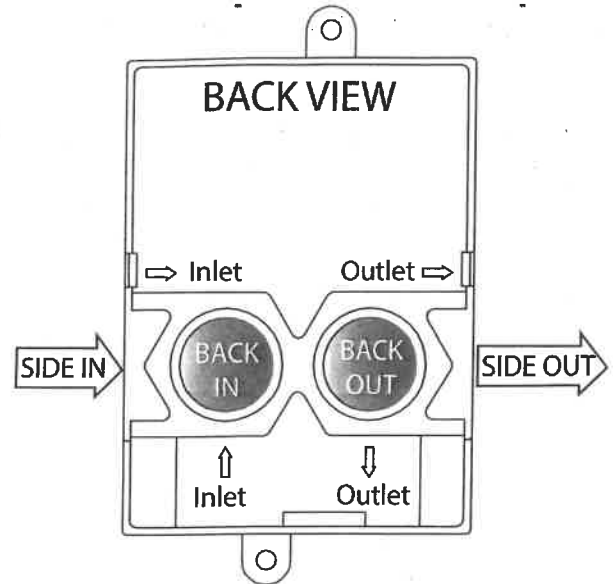
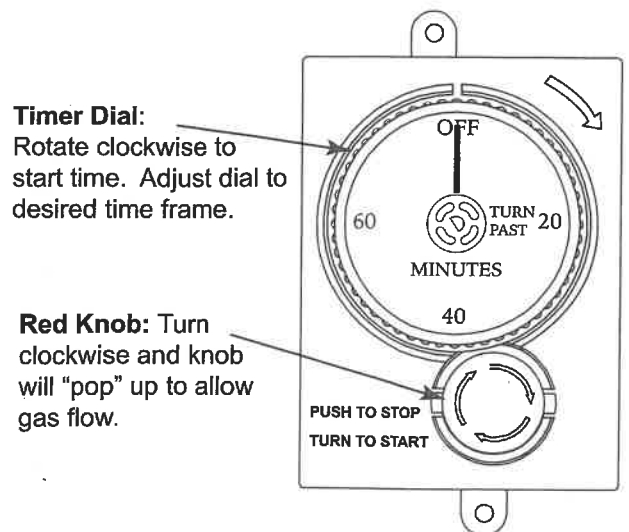
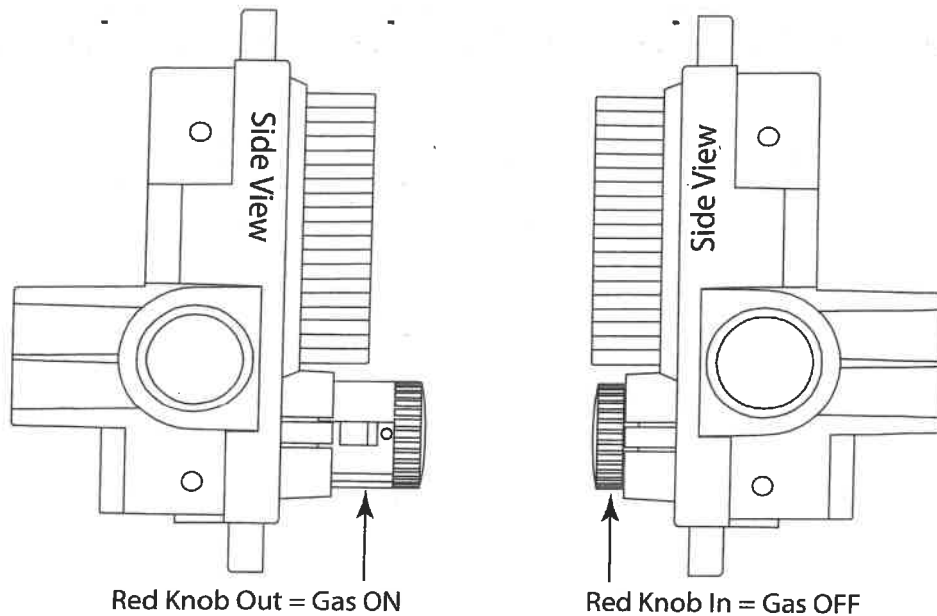

Fig. 2 Inlet and outlet connections.
Fig. 4 E-STOP operation.
Fig. 5 E-STOP Gas Timer red knob positions
The E-STOP is designed to be installed in an up-right position as shown in Fig 3, view "D" or Fig. 4. It has two (2) inlet and two (2) outlet gas connections. The diagrams below provide possible ways to plumb the E-STOP (See Fig. 3). Two (2) ½" NPT plugs are provided with the E-STOP. Plug the inlet and outlet connections not being used for the application. Connect gas supply to the inlet with the arrow ⇨ pointing into the valve. Connect outlet side to the gas appliance (See Figs. 2 & 3 for details).
TO TURN OFF: Let timer expire or simply press red knob inward until it stops. The red knob will lock down with a "click" and stop gas flow. See Fig. 4 and Fig. 5 on following page.